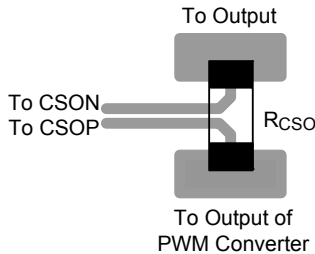

Figure 6. Kelvin connections for the  $R_{CSO}$
- ▶ Connect the capacitor (between the CSOP and CSON pins) close to these pins. The paths of CSOP and CSON must be directly connected to the terminals of current-sense resistor ( $R_{CSO}$ ) using Kelvin connections as shown in the layout in Figure 6.